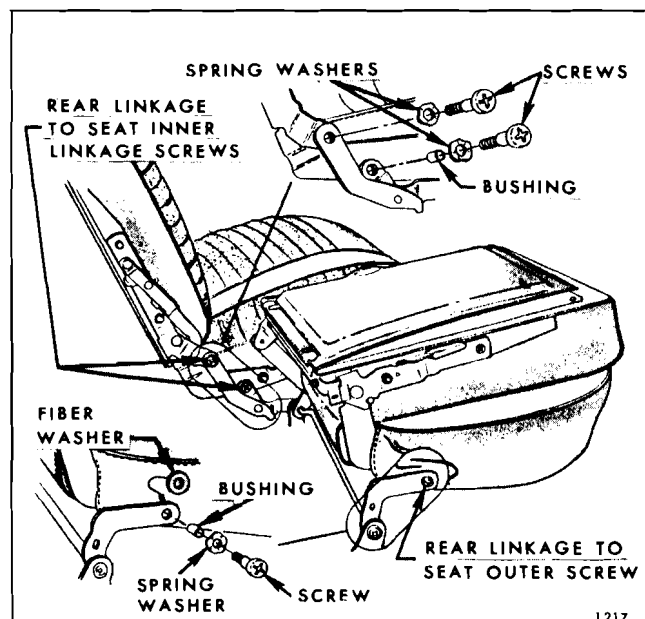

Fig. 15-89—Floor Pan Rear Linkage (Vista Cruiser and Sport Wagon Styles)
2. Remove screws securing rear floor pan linkage to each side of seat cushion frame (Fig. 15-89); then, remove linkage assembly from seat.
3. To install, reverse removal procedure. Inserts in Figure 15-89 show relationship of linkage, bushings and attaching screws.
2. Remove floor pan rear linkage-to-seat inner linkage attaching screws (Fig. 15-89).
2. Remove outer linkage cover. Remove rear floor pan linkage to seat outer attaching screw (Fig. 15-89).